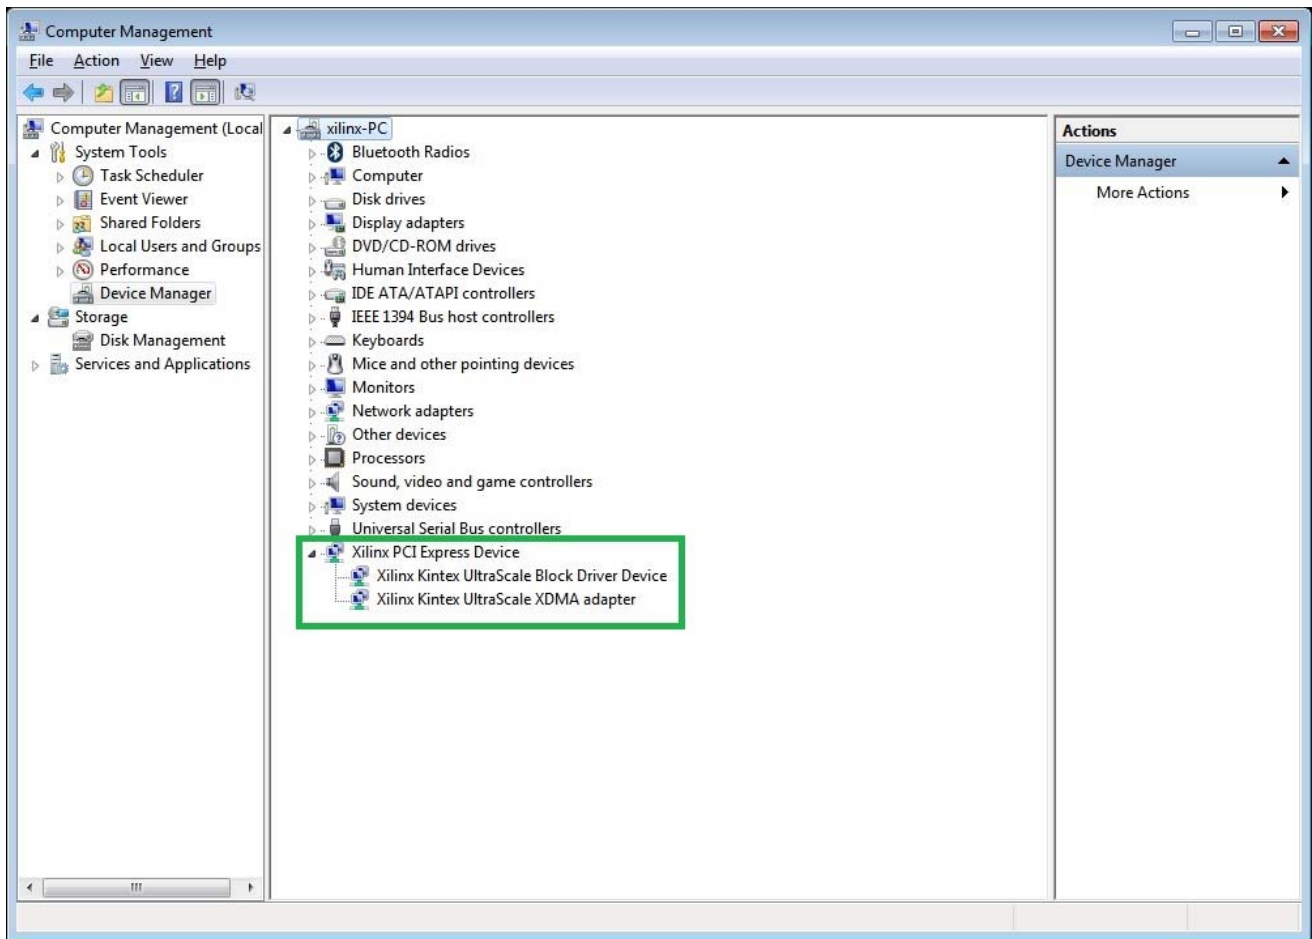

Figure 3-9: Xilinx PCI Express Device in Device Manager
2. Open Device Manager (click **Start** > **devmgmt.msc** then press **Enter**) and look for the Xilinx PCI Express Device as shown in Figure 3-9.